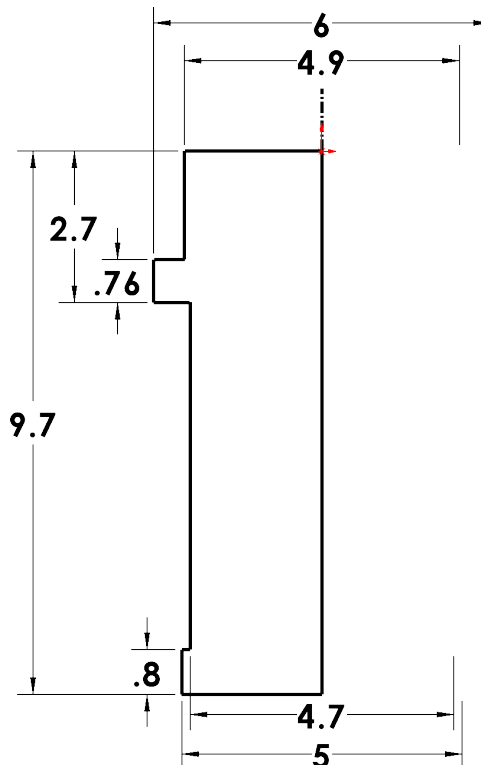

Fig. 4
Step 7. Click **Smart Dimension**  (S) on the Sketch toolbar.
Step 8. Add dimensions, **Fig. 4**. Dimension **double distance** 4.9. To double distance dimension, click centerline and then top horizontal line, move the cursor below centerline (Origin) and click. Key-in 4.9 in the Modify box and press ENTER. Double distance dimension the other diameter dimensions.